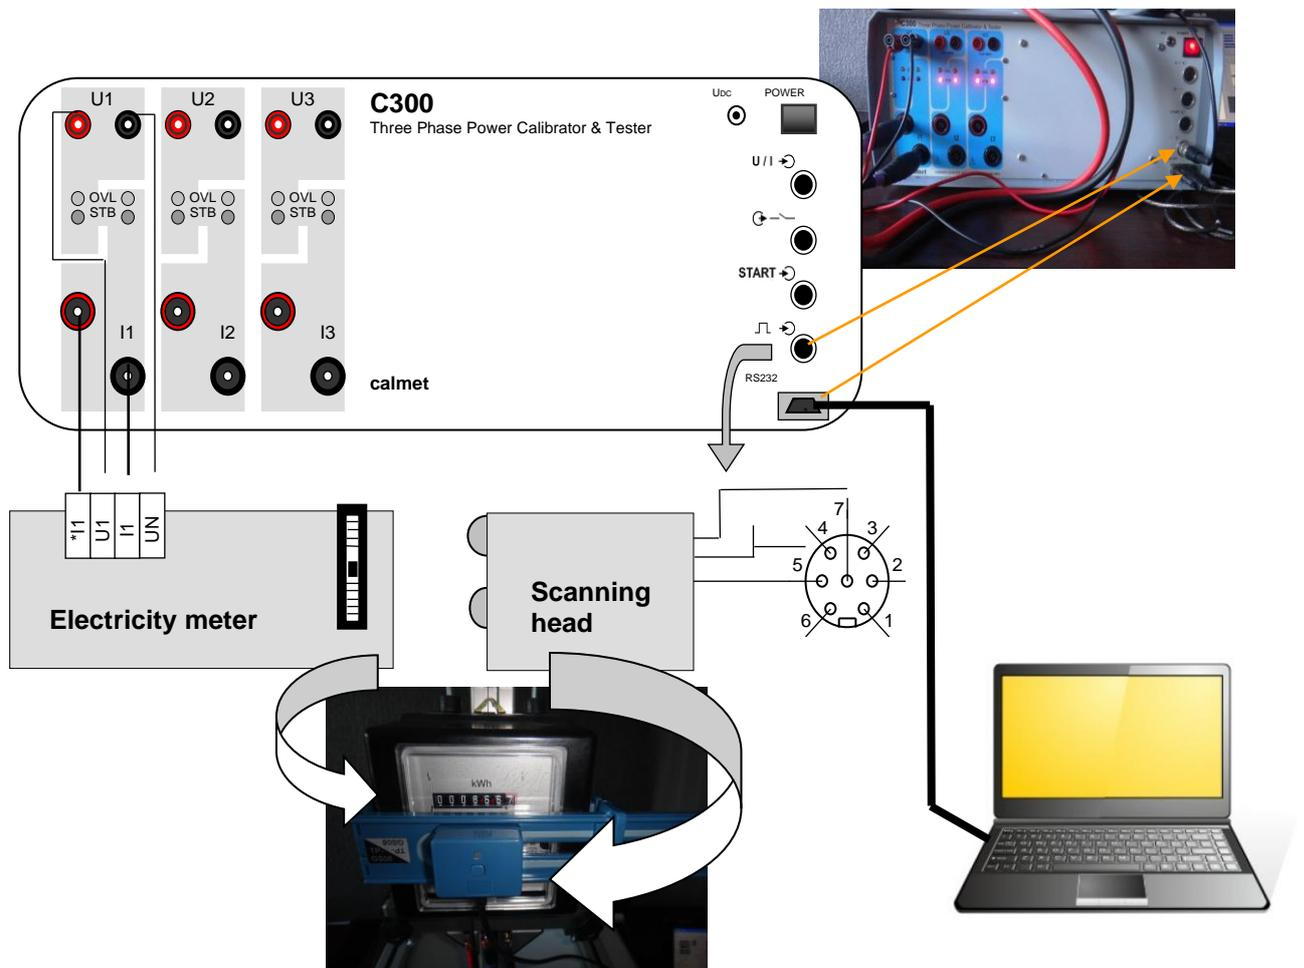

Fig.2. An overview of the connections in the system for one-phase electricity meter checking
The complete system is presented in Fig.2
- press the button on the photo head to switch it on, see fig.2,
- if the photo head is set up correctly, the red LED (see fig. 2) will blink according to the rotating black spot on the electricity meter's disc. Otherwise, reposition the photo head until the red LED begins blinking,